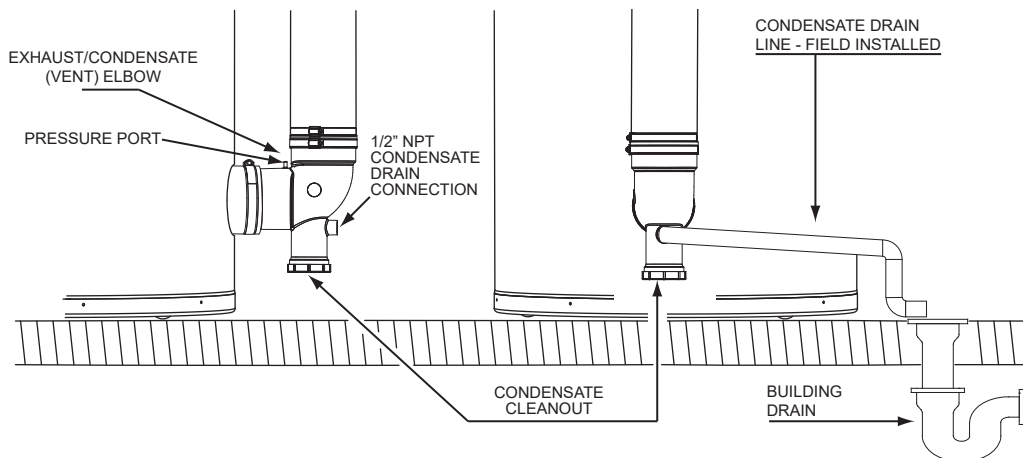

Figure 50. Condensate Drain Installation
2. Install a 1/2 inch PVC condensate drain line between the condensate drain connection on the Exhaust/Condensate Elbow and a suitable building drain. The exhaust elbow has a "built in" condensate trap. Do not install an additional trap in the condensate drain piping. See **Figure 50**.
3. Terminate the condensate drain piping near a suitable building drain, or external to the building. See **Figure 50** (page 42).
4. Ensure the condensate drain line is not elevated above the condensate drain connection on the exhaust/condensate elbow. See **Figure 50**.